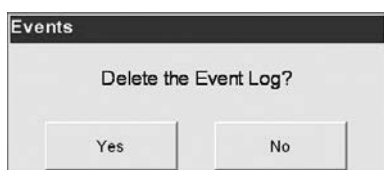

Fig. 7-52 Delete Confirmation
- Press  **Delete** to delete the event log. Confirm your choice by pressing  **Yes** in the **<Delete the Event Log?>** screen (Fig. 7-52).